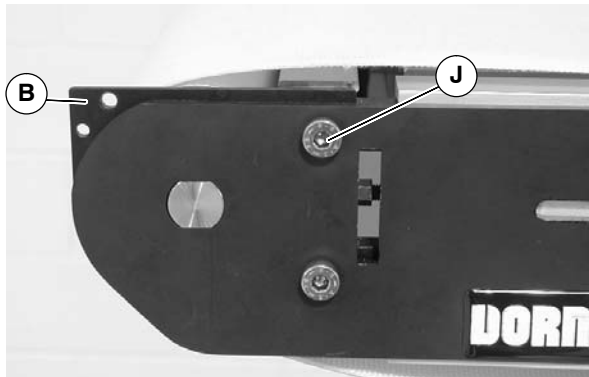

Figure 6
- Replace with new spacer plates (B of Figure 6). Insert screw (J) hand tight.